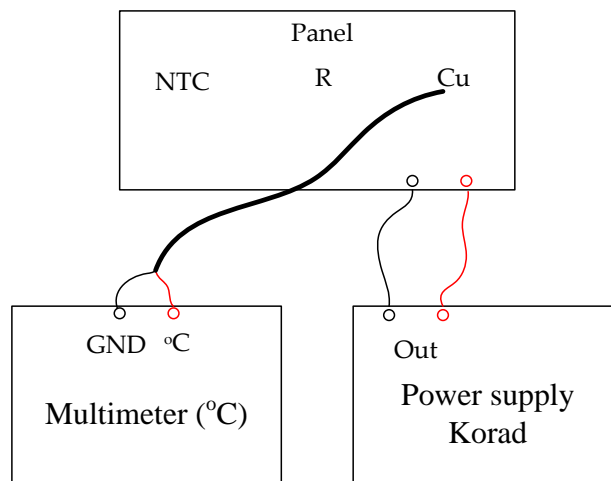

Fig. 1. The measurements setup arranged for Cu wire measurements
The measurement set up is shown in Fig. 1. It consists of power supplier, thermometer, case with elements (NTC, R, Cu) with thermocouple, computer.
2. Set up a circuit as it is shown in Fig. 1.